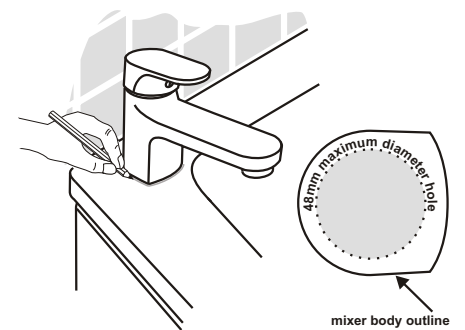

Figure 6 Drilling the bath tub
This one hole bath filler is designed for a corner installation (see fig 6) or a position along the front side rim of the bath. Do not fit in line with the overflow assembly.
The installer will have to drill a 48mm diameter hole in the rim. Before this is done consider whether a shower screen is to be fitted as it could foul the filler. Before fitting the tails, place the monoblock in the intended location and check for free movement of the lever handle. Next draw a pencil line around the base (Figure 6). In the centre of the outline, drill a 48mm hole. Fit the supply tails (17) ensuring the o-rings (16) are correctly located in the groove below the M18 threads. Place the sealing o-ring (14) in the groove on the underside of the fitting base. Place the fitting in the new tap hole.